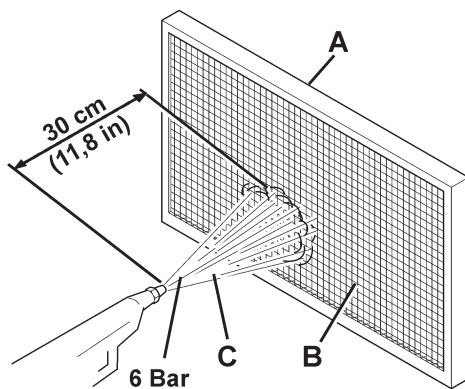

Figure 14
9. In an outdoor area, clean the filter by shaking it on a level and clean surface, tapping the side (A, Fig. 14) opposite to the wire gauze (B).
- Install the filter with the wire gauze (B, Fig. 14) facing upwards.